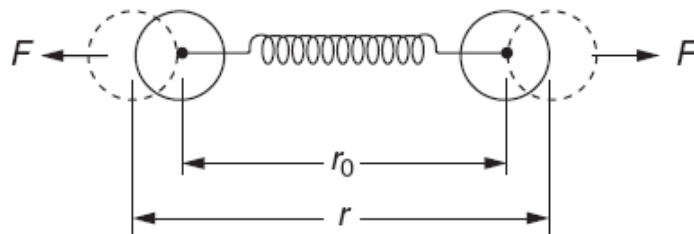

Figure 1: Idealisation of two atoms in a molecule.
- (b) With reference to Figure 1, the potential energy U of two atoms separated by a distance r is given by: